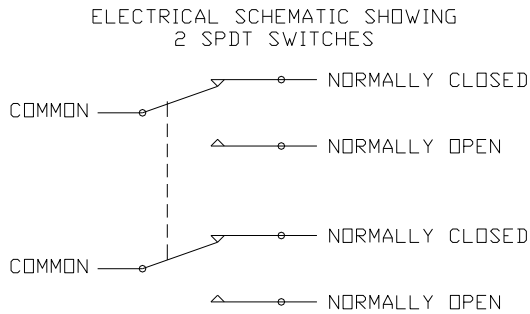

Figure 1: SPDT 2-Switch Schematic
3. After mounting the unit, the cover should be removed to adjust the cam on the shaft to give micro-switch actuation at the desired point. Both the paddle and the counterweight may have to be loosened, rotated and re-tightened on the shaft to achieve proper actuation. Refer to figure 1 and 3 through 6.
- Field wiring must meet or exceed the requirements of the National Electrical Code and any other agency or authority having jurisdiction over the installation. Conduit fittings must meet applicable CSA and UL standards. Refer to figures 1 through 5 for wiring information.